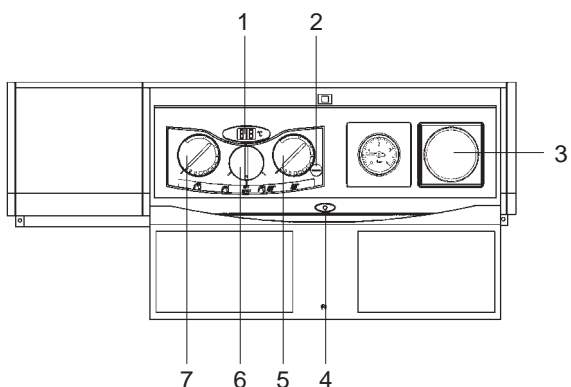

Fig. 1
**BEFORE ATTEMPTING TO LIGHT APPLIANCE PLEASE MAKE SURE THAT IT IS CHARGED UP WITH WATER WITH THE NEEDLE POINTING AT 1bar ON THE PRESSURE GAUGE ( 2 Fig.1 )**